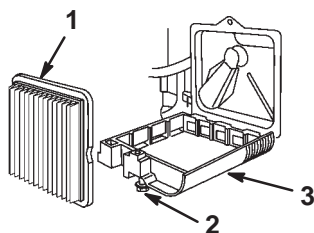

Figure 21
3. Loosen the screw that secures the air cleaner cover (Fig. 21).
4. Tilt the cover down and clean it thoroughly (Fig. 21).
5. Remove the paper air filter and discard it (Fig. 21).
6. Insert a new paper air filter (Fig. 21).